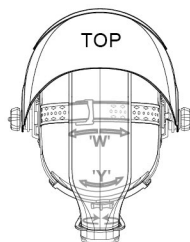

fig.3
The overall circumference of the headgear can be made larger or smaller by rotating the knob on the back of the headgear. (See adjustment “Y” in fig.3). This can be done while wearing the face shield and allows just the right tension to be set to keep the face shield firmly on the head without it being too tight.
- If the headgear is riding too high or too low on your head, adjust the strap which passes over the top of your head. To do this release the end of the band by pushing the locking pin out of the hole in the band. Slide the two portions of the band to a greater or lesser width as required and push the locking pin through the nearest hole. (See adjustment “W” in fig.3).